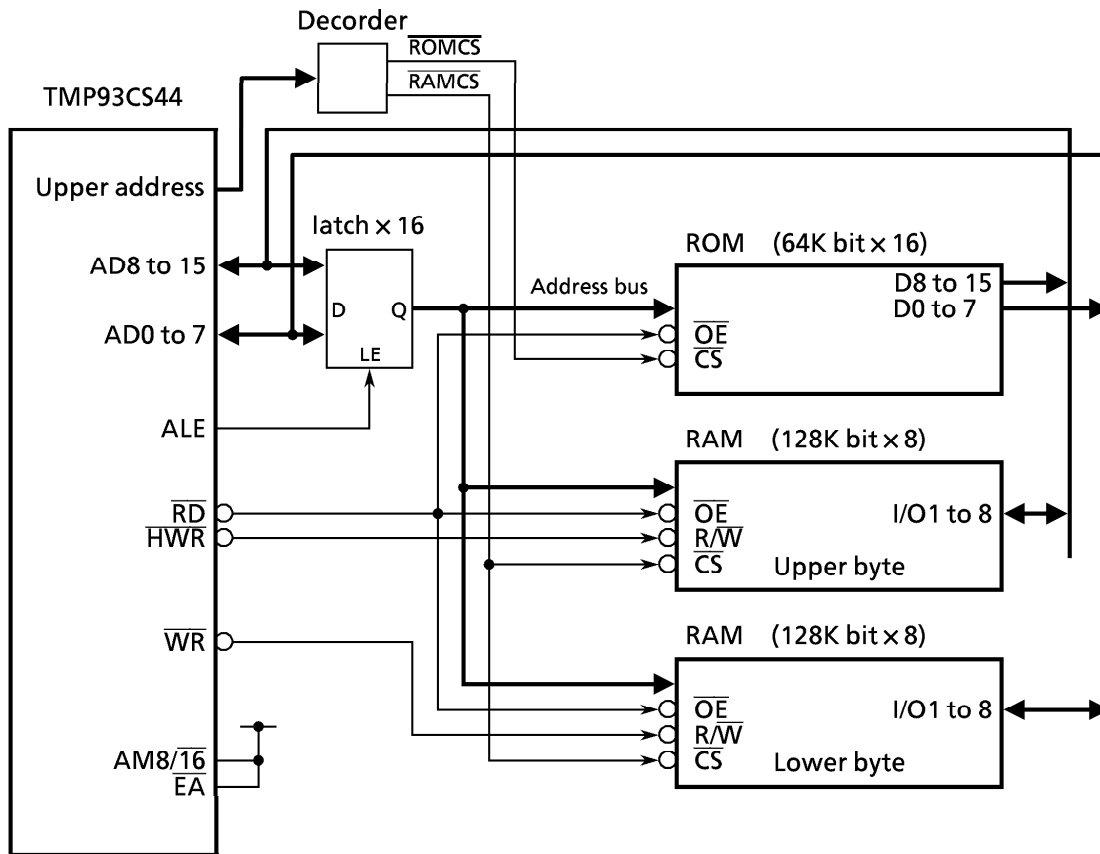

Figure 3.6 (4) Example of External Memory Connection (ROM & RAM = 16 bits)
(3) Example of Usage-3
Figure 3.6.(4) is an example in which an external memory is connected to the TMP93CS44. In this example, ROM 128K byte is connected using 16 bit bus, and RAM 256K byte using 16 bit bus.